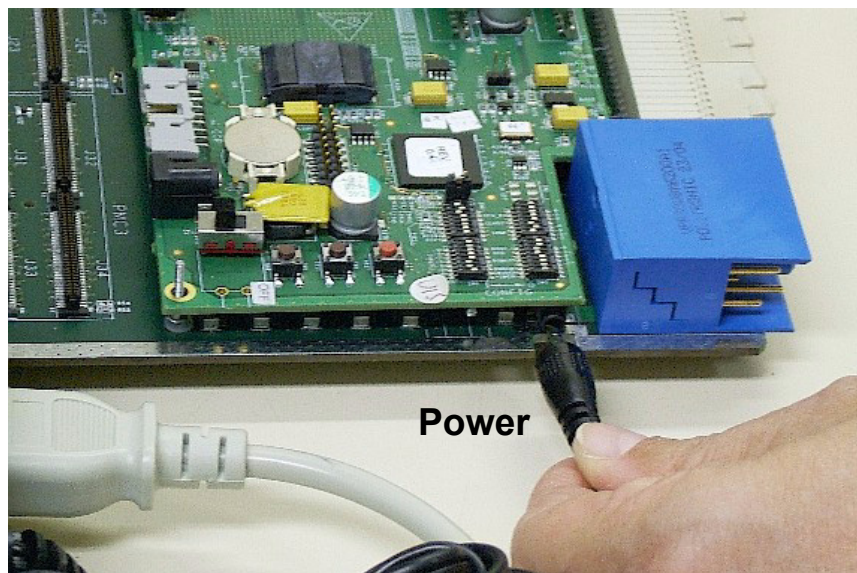

Figure 2-7 Connecting Power input to the PIB
7. If you are not working with either the USB or the PCI cards, and you will be working with the PIB in a “table-top” configuration (as opposed to inserting it in a rack to use its back plane connections), you can at this point connect the power supply to the voltage input as shown in Figure 2-7.